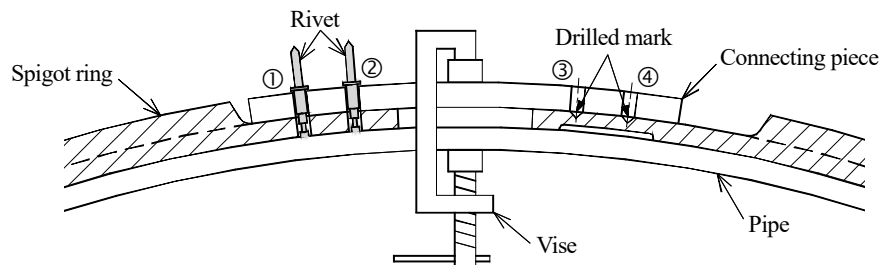

Figure 29 Set of spigot ring
- 5) Attach the connecting piece on the spigot ring by inserting the rivets into the holes of spigot ring and connecting piece (①, ② of Figure 29). Fix the spigot ring and connecting piece to the groove with vise. Mark the riveting positions on the spigot ring by drilling shallow holes with drilling machine through the holes of the connecting piece (③, ④ of Figure 29). Use 0.161" - 0.165" diameter drill.
- 6) Remove the vise then take out the spigot ring from the groove of spigot. Drill two penetrated holes on the spigot ring at the drilled mark (③ and ④ of Figure 29).